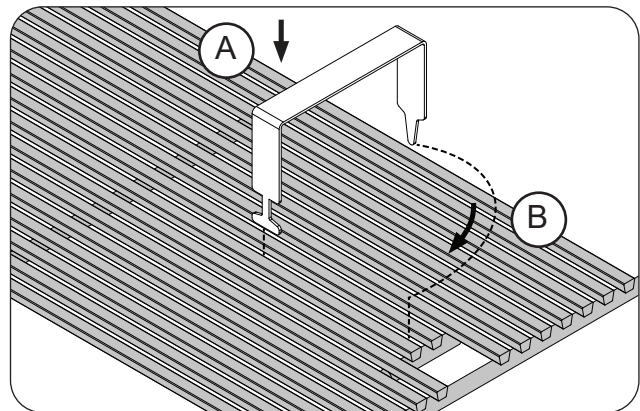
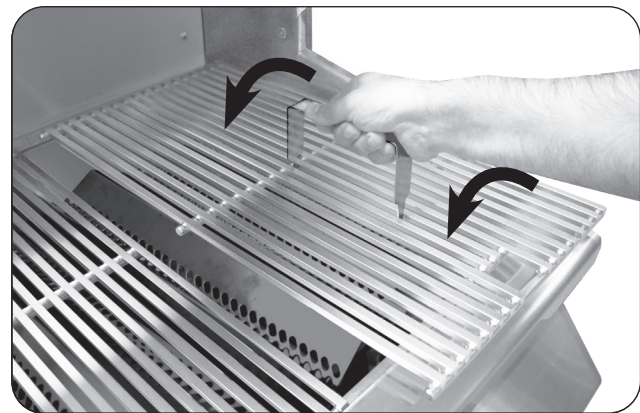

Fig. 28-2 Install cooking grids
Fig. 28-3 Install cooking grids
1. With the prongs facing downward, insert the notched-end of the lifter between two grid rods, then rotate, as shown in Fig. 28-2, A & B.
2. Insert the rear pointed-end of the lifter between the same two rods (see Fig. 28-2, B) and carefully lift the cooking grid and place onto the front and rear grid rests of the grill (see Fig. 28-3). Repeat for all other cooking grids.